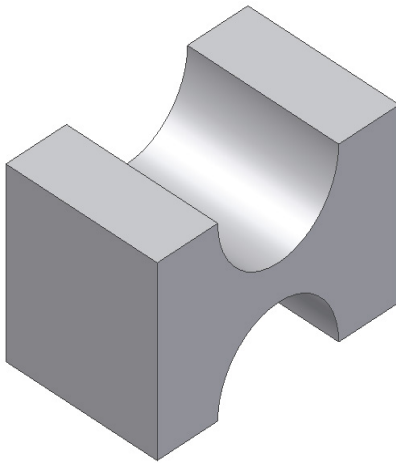
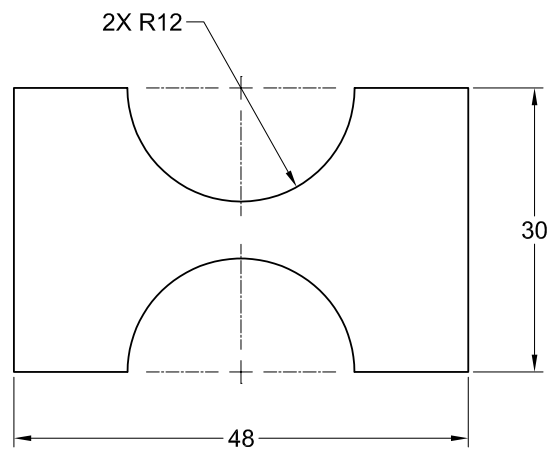

Figure 2-70 Model for Tutorial 3
Figure 2-71 Sketch for Tutorial 3
In this tutorial, you will draw the sketch for the model shown in Figure 2-70. The sketch of the model is shown in Figure 2-71. Do not dimension the sketch as the dimensions are given only for reference.
- b. Draw the sketch by using the **Arc** and **Line** tools, refer to Figure 2-71.